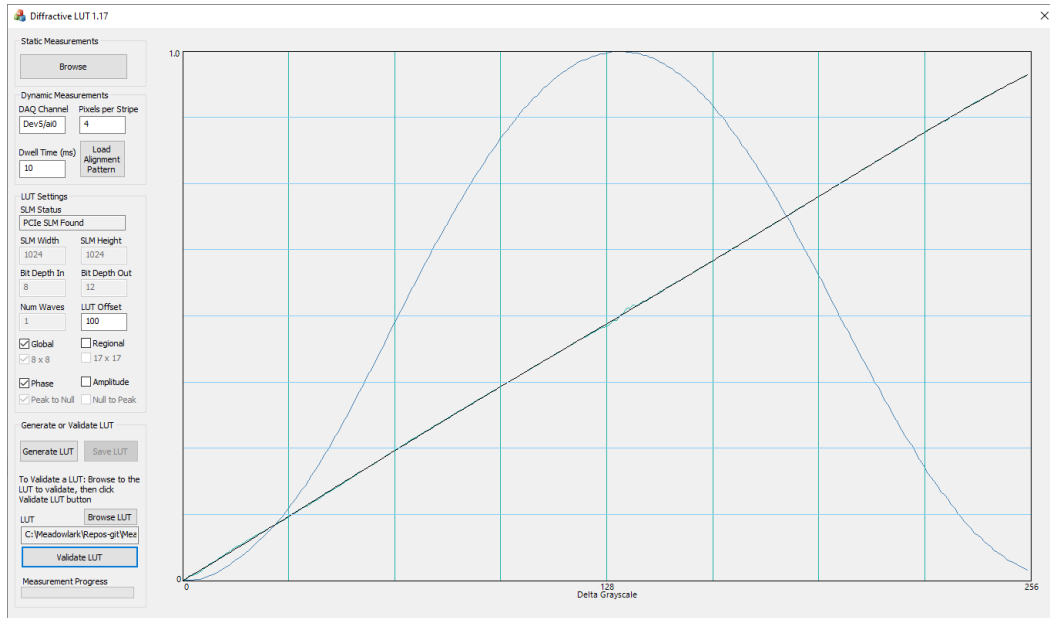

Figure 30 Validating a calibrated LUT. The phase vs. voltage should be linear from 0 to 2π
3. **Browse LUT and Validate LUT.** To validate a LUT, browse to the LUT file in question. This will load the LUT to the SLM controller. Click the Validate LUT button to measure the optical response with the LUT applied. If the LUT is properly calibrated the SLM will have one wave of modulation with a linear phase vs. voltage response as shown in Figure 30. Note that the 2π null will not be as low as the 0π null due to inter-pixel smoothing at the phase wraps as opposed to a theoretical perfect phase discontinuity.